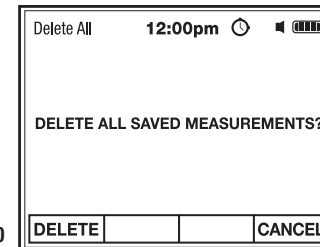

Fig. 20
2. Press the F1 DELETE soft key to delete **ALL SAVED MEASUREMENTS** (Fig. 20).
3. Press the F4 CANCEL soft key to return to Measurements without deleting (Fig. 20).